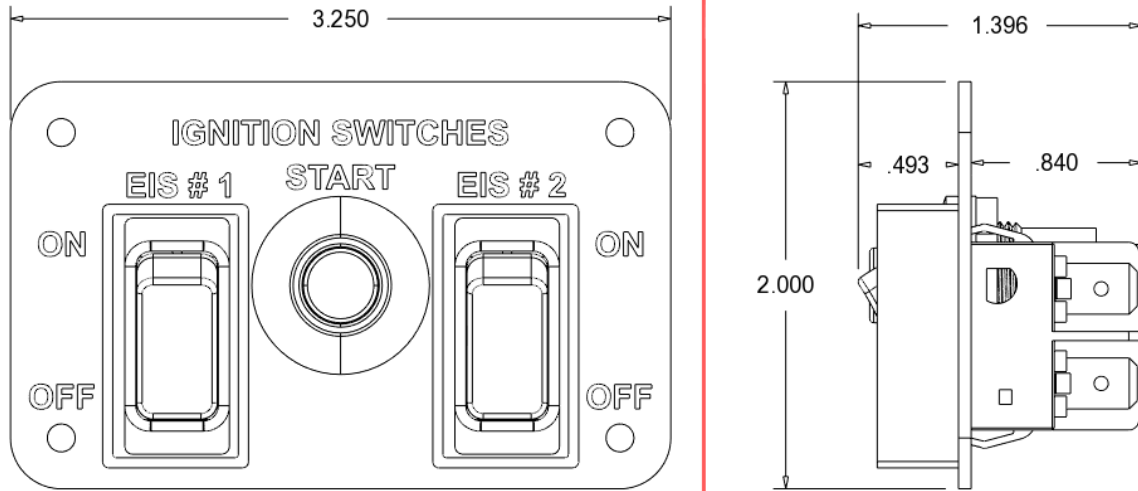
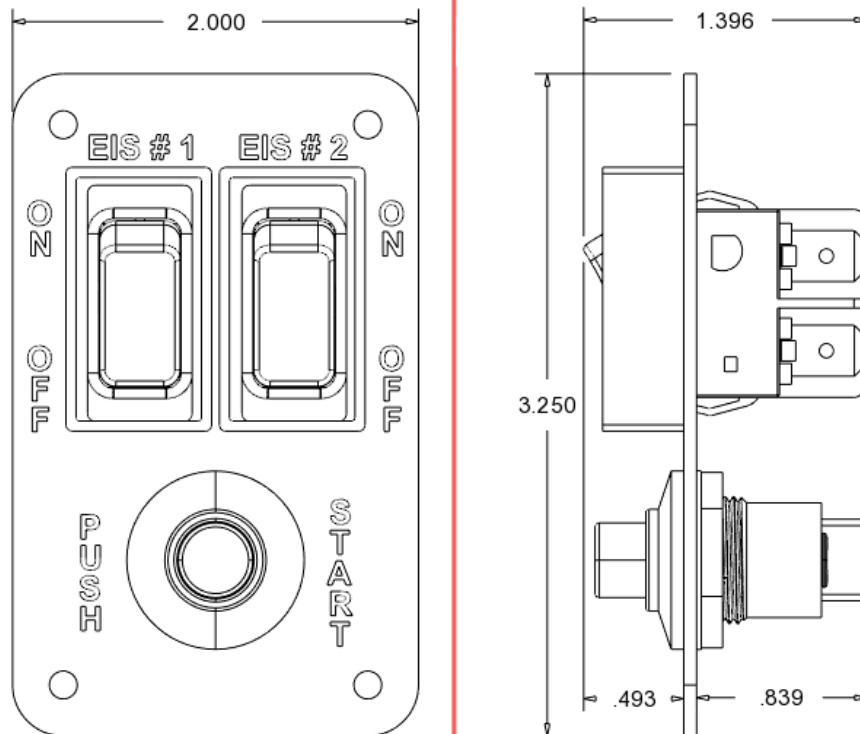
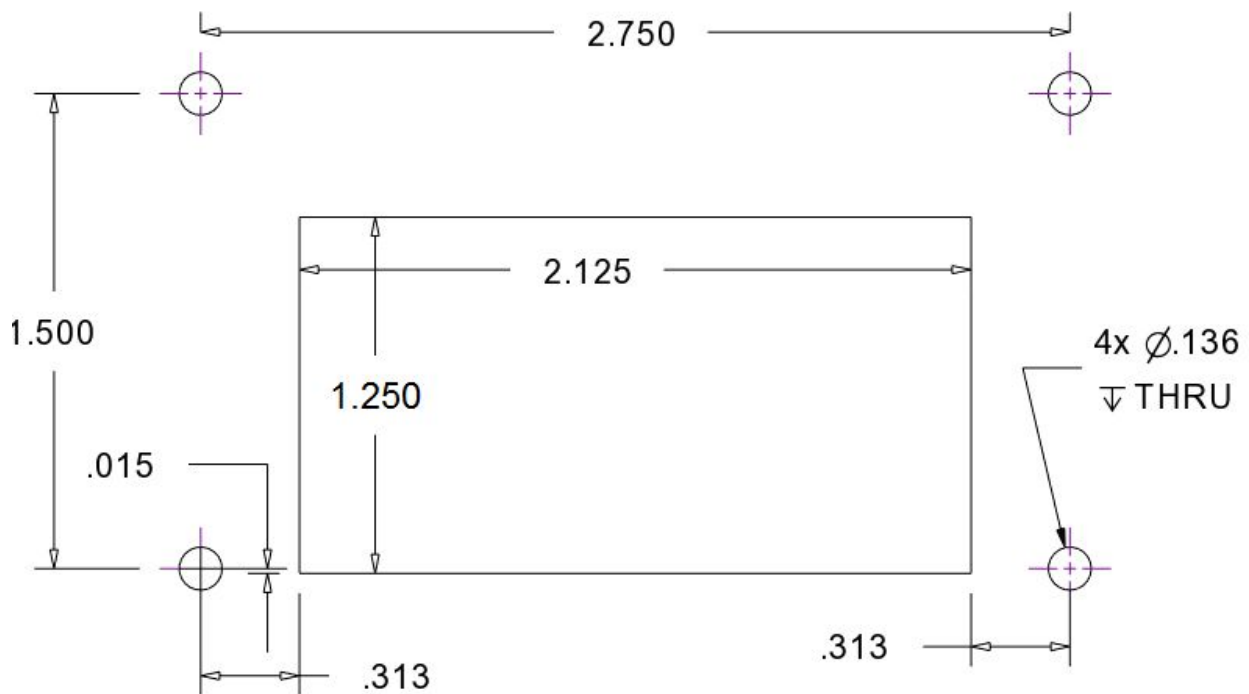
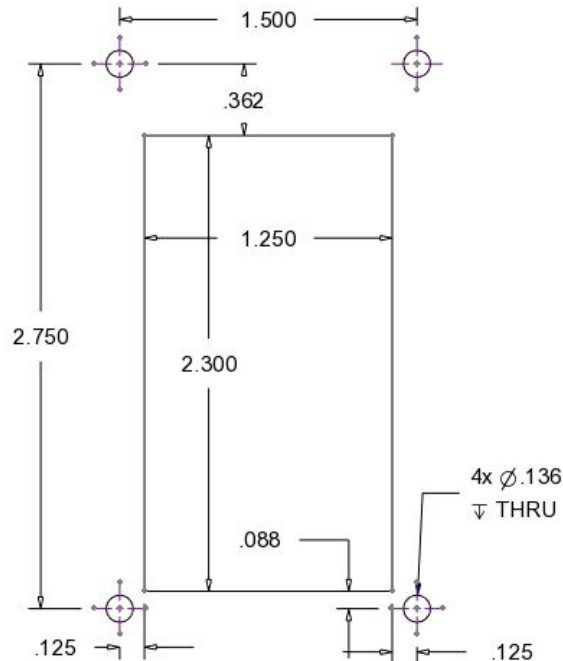

Figure 1: Configuration A Overall Dimensions
Figure 2: Configuration B Overall Dimensions
Figure 3: Configuration A Cutout Dimensions
Figure 4: Configuration B Cutout Dimensions
- Overall dimensions are provided in Figure 1 and Figure 2. Cutout dimensions are provided in Figure 3 and Figure 4. All dimensions are in inches.